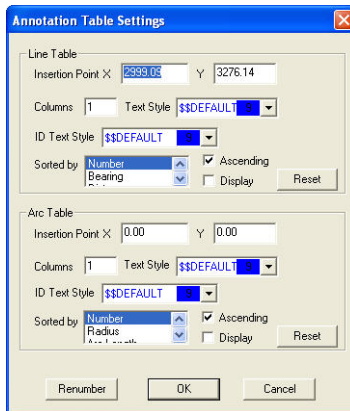

Figure 9-107. Annotation Table Settings
Arc Annotation Table To insert an Arc Annotation table (Figure 9-107), do the following:
4. To modify the table, double-click inside the table to open the **Annotation Table Settings** dialog box (Figure 9-107).